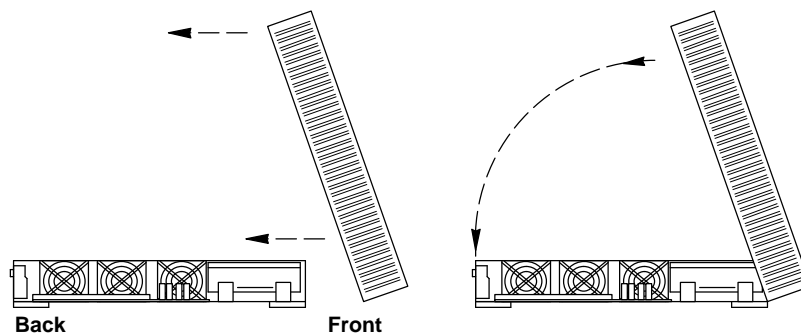

Figure 3-13. Installing the System Unit Cover
1. Hold the cover approximately at an angle as shown in Figure 3-13, and gently glide the hinge tabs on the cover into the tab slots on the front of the system unit. Continue to hold onto the cover.